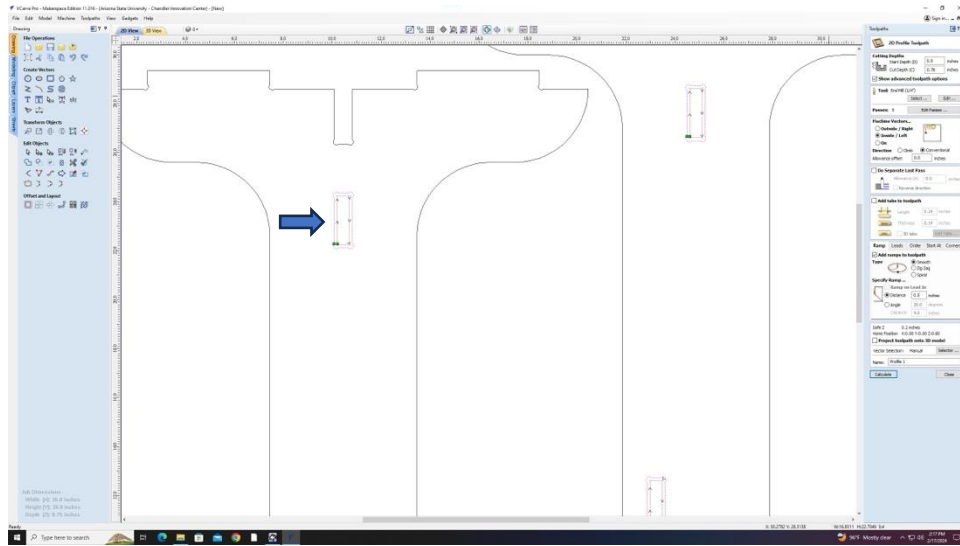

Figure 19: The tabs on the inside cuts are in green, with the arrow pointing to the inside cuts in green.
- f. Add a minimum of 1 tab to each of the pieces and click “OK” when all the settings and the toolpath are shown as expected(Figure 19).